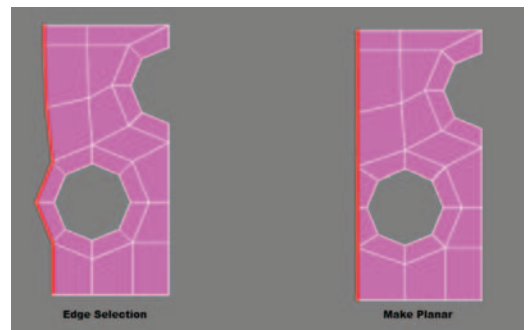

Figure 5.13 Make Planar to straighten and clean our edges.
14. Rather than creating additional unneeded geometry, we are going to use some existing edges to create straight side edges for our object. Select the uneven edges (Figure 5.13) and use Make Planar “X” to straighten them.